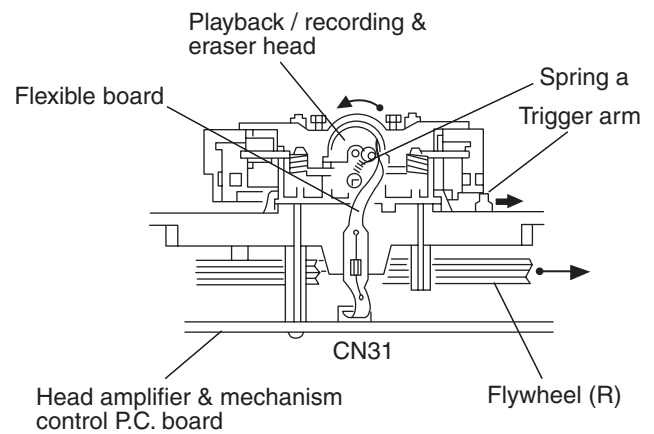
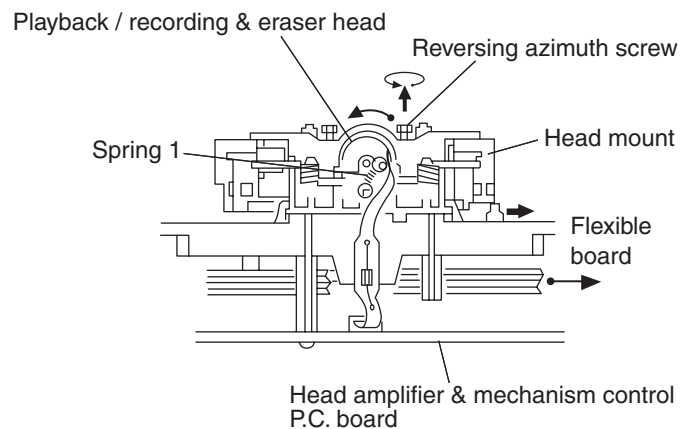

Fig. 2
Fig. 3
2. When the flywheel (R) is rotated in counterclockwise direction, the playback / recording & eraser head will be turned in counterclockwise direction from the position in Fig. 2 to that in Fig. 3.
■Reassembling the playback / recording & eraser head (See Fig.2, 3)
1. Reassemble the playback head from the front of the head mount to the position as shown in Fig. 3.
4. Attach the flexible P.C. board to the chassis base, as shown in Fig. 3.